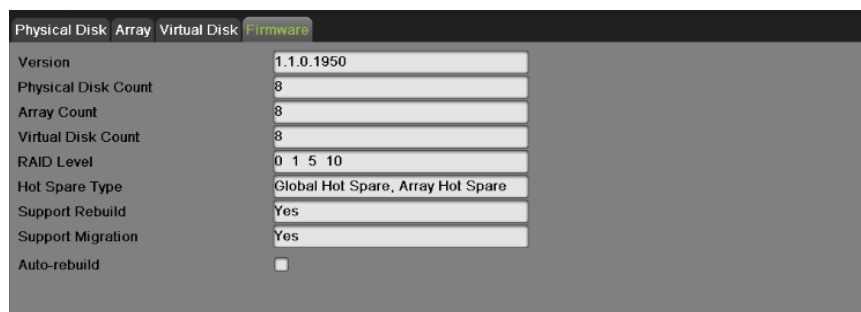

Figure 176 Firmware Interface
1. Enter the Firmware interface by going to Menu > System Configuration > RAID > Firmware, as shown in **Figure 176**.